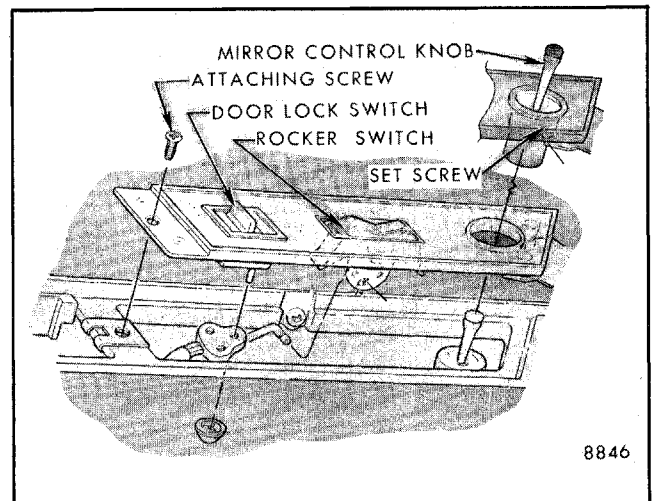
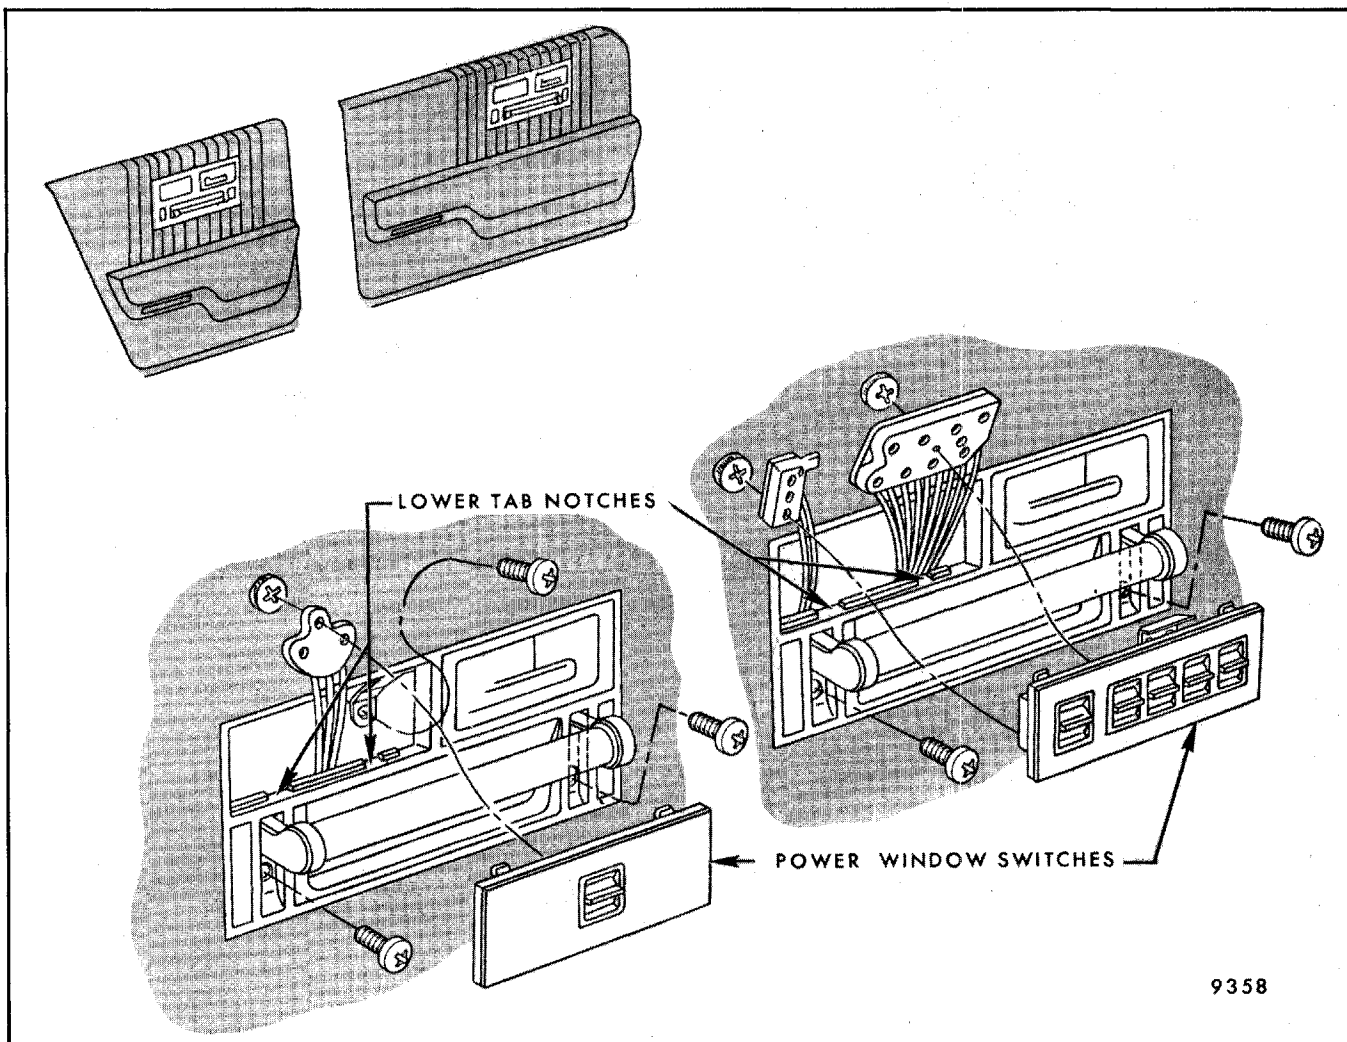

Fig. 5-12 - Door Armrest Cover and Remote Mirror Cable Attachment - "K" Styles
Fig. 5-18 - Power Window Control Switch Plate - "K" Style
5. On "K" body styles, remove power window control (Fig. 5-18) described immediately after this procedure, and disconnect locking rod from door lock rocker switch retaining clip (Fig. 5-12).
1. Insert a thin narrow bladed screwdriver through the lower tab notch against the spring steel clip blade (Fig. 5-18). Engage blade of clip with screwdriver, then using screwdriver as a lever, lift spring clip from engagement with edge of pull handle escutcheon. Hold loose edge of plate and repeat operation at adjacent lower clip blade to complete cover plate removal.
2. Disconnect electric window terminal and blockout switch terminal (Fig. 5-18).